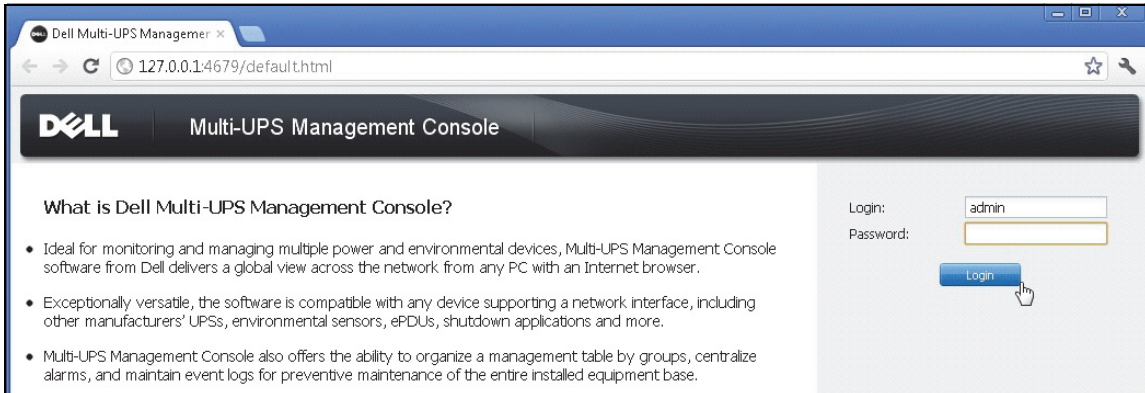

Figure 3. Login Screen
- 3 Read the application description. Type the login and password and click **Login** (see Figure 3).